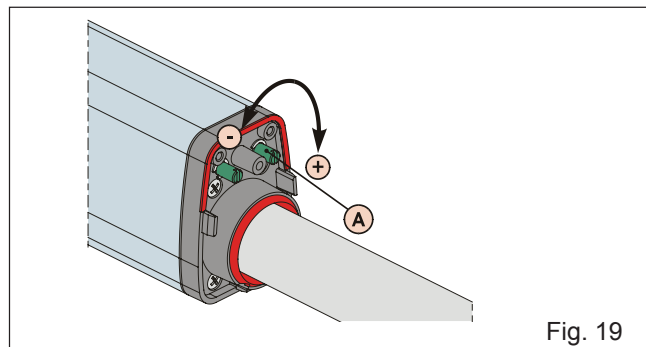

Fig. 19
2. To adjust the closing limit switch FCC, turn the adjusting screw clockwise (Fig.19 Ref.A) to increase rod stroke and counter-clockwise to reduce it.